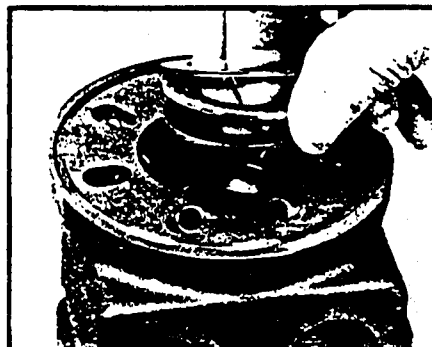

Figure 35
6. Install a thrust washer (13), the thrust bearing (14) and then another thrust washer (13) into the housing (15) inner bearing bore until they are seated at the bottom of the bore. SEE FIGURE 35.